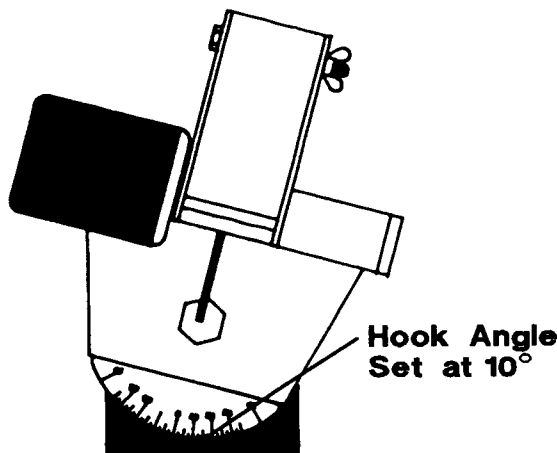

FIG 2-10
2. Set the hook angle by using the indicator found at the back of the throat (See Figure 2-10). The numbers and hash-marks indicate how many degrees the grinding head is tilted for hook angle. Set the hook angle gauge with the rivet head at the back of the throat. As a general rule, this angle should be set at 10 degrees for most woods. The hook angle can range from 10 to 12 1/2 degrees for hardwoods and 12 1/2 to 15 degrees for softwoods.